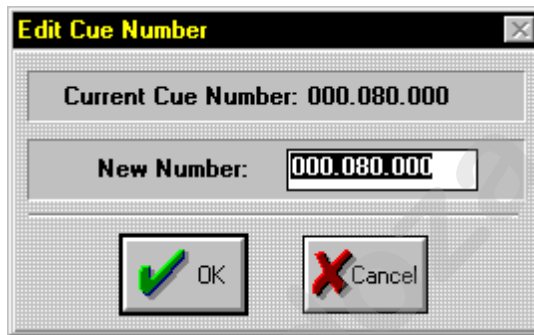

Figure 8.15. Edit Cue Number Dialogue Box
2. Double click the **Cue Number** field. This brings up the **Edit Cue Number** dialogue box. Refer to Figure 8.15.